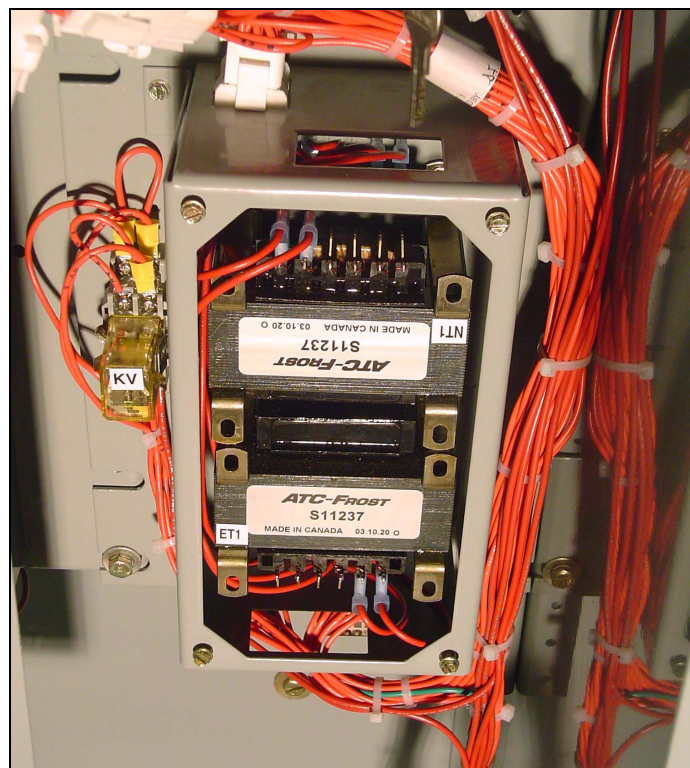

Figure 25. North American Market Voltage Selection Panel with Voltage Being Selected.
Step 2: Remove the wires from the primary taps of both transformers and installed them on the taps for the desired voltage (Figure 25). Note that only one wire per transformer is moved since the second wire is the zero reference.